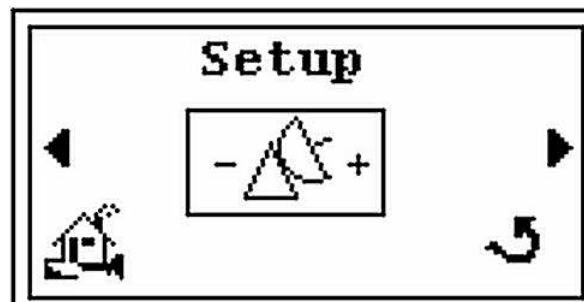

Figure 2-35 Setup Screen
3. Press the ► and the *Setup* screen appears (Figure 2-35).